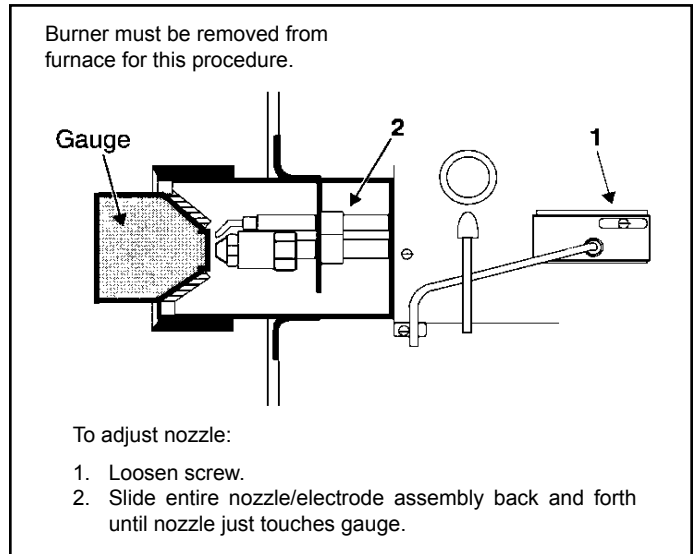

Figure 11. Beckett Oil Burner Nozzle Adjustment
Proper nozzle and electrode depth and alignment are essential for proper burner operation. Figure 11 shows the proper adjustment procedure using the Beckett "T" gauge.
- Nozzle adjustments are made by sliding the entire nozzle assembly forward or backward within the blast tube (see Figure 11).